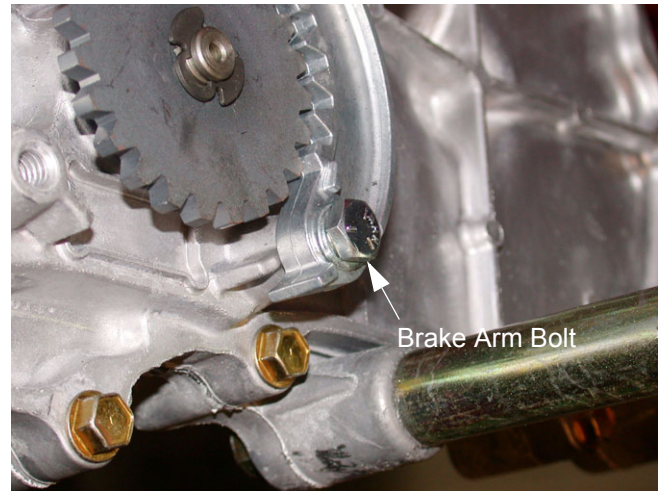

Figure 9.9
- 9.9. Remove the bolt securing the brake arm to the transmission using a 7/16" socket. See Figure 9.9.